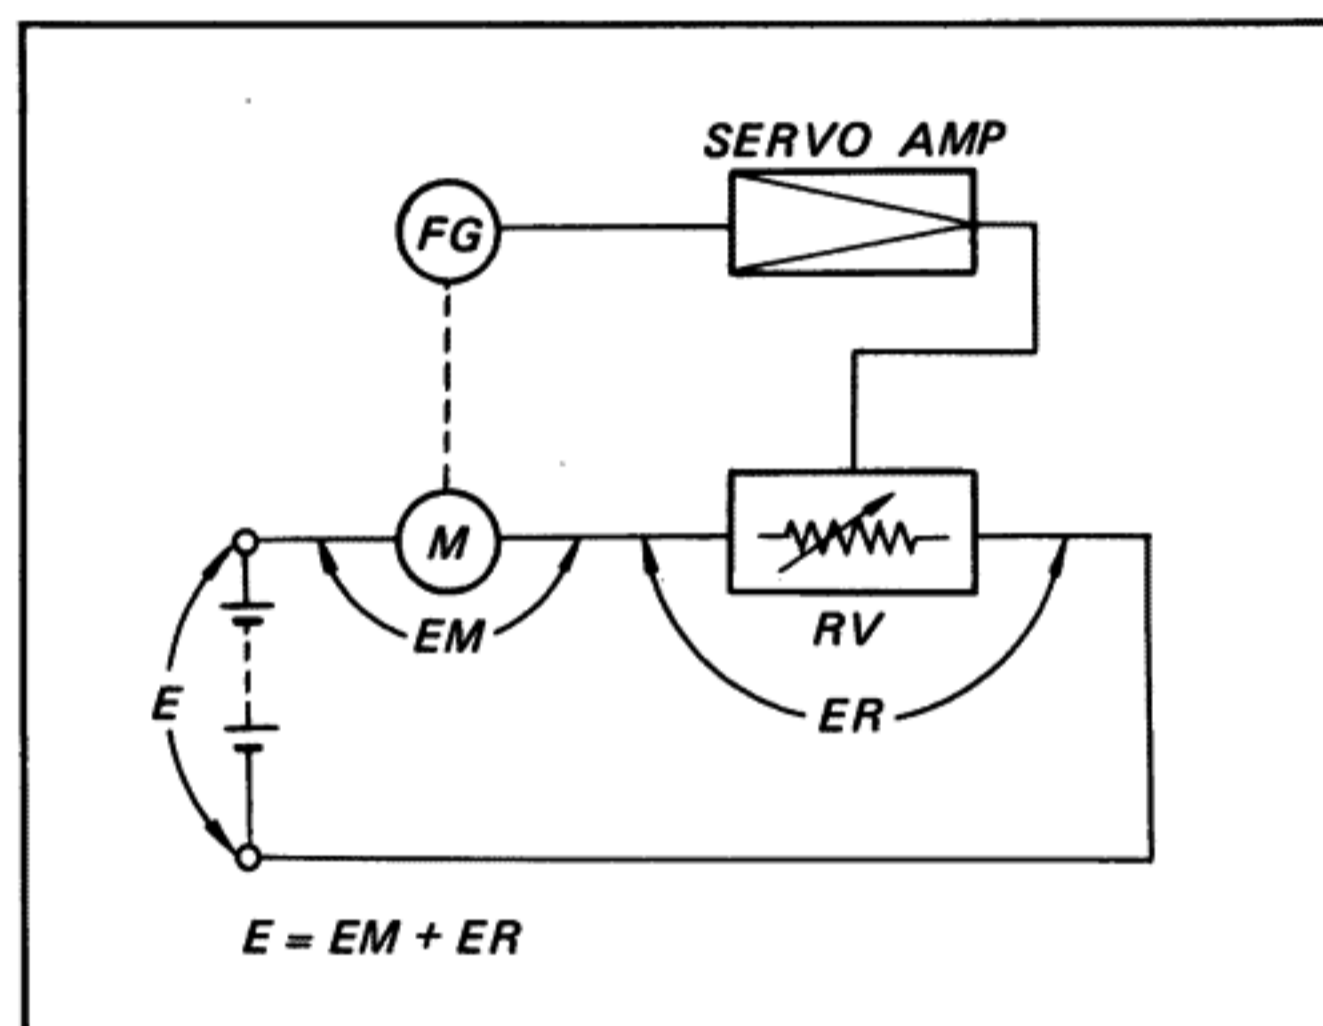

Fig. 1-1. Principle of dc servo system
Fig. 1-1 shows a simplified diagram of the dc servo system employed in this set. Since the motor speed is proportional to the applied voltage, it is controlled by varying the applied voltage (EM) to the motor. This is effectively performed by means of a series resistor Rv.